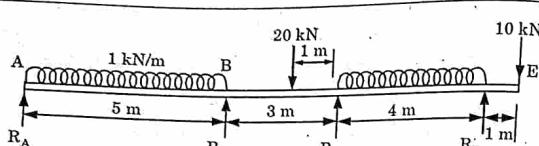

Fig. 1.
- A beam $ABCDE$ is continuous over four supports and carries the loads shown in Fig. 1 given below. Determine the values of the fixing moments at each support.